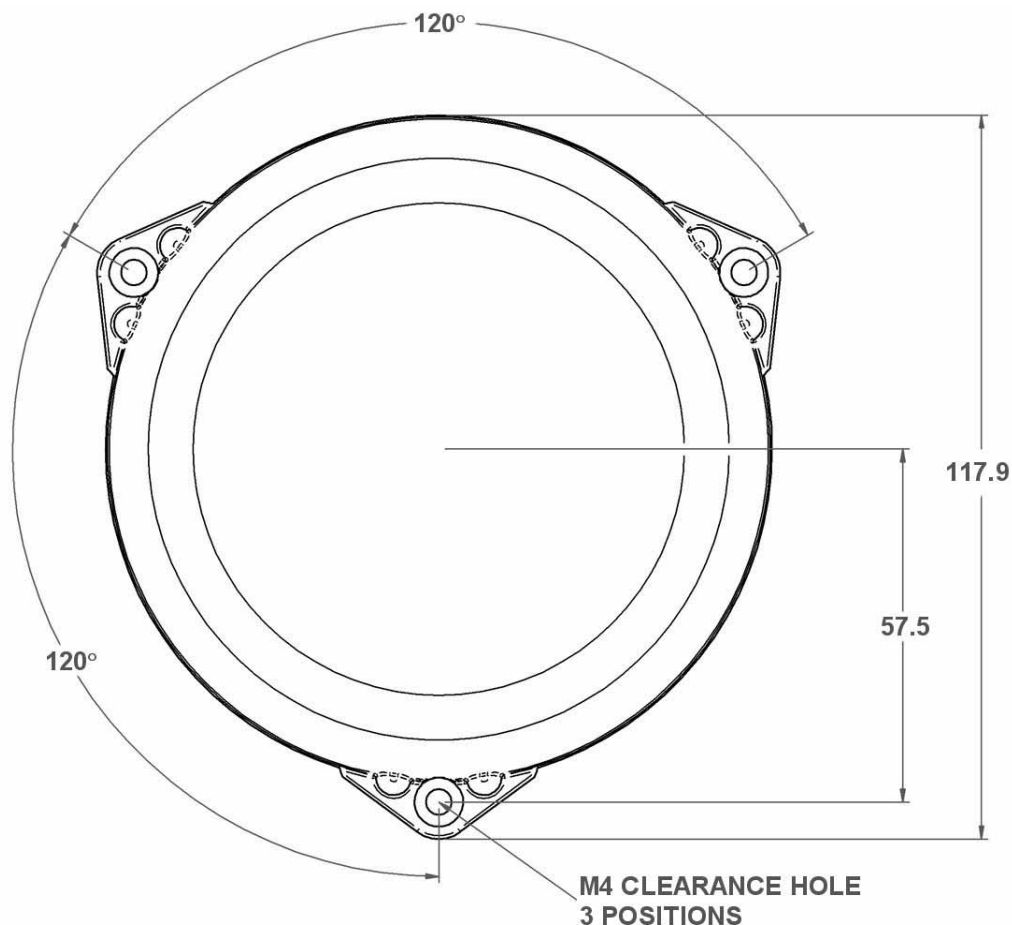
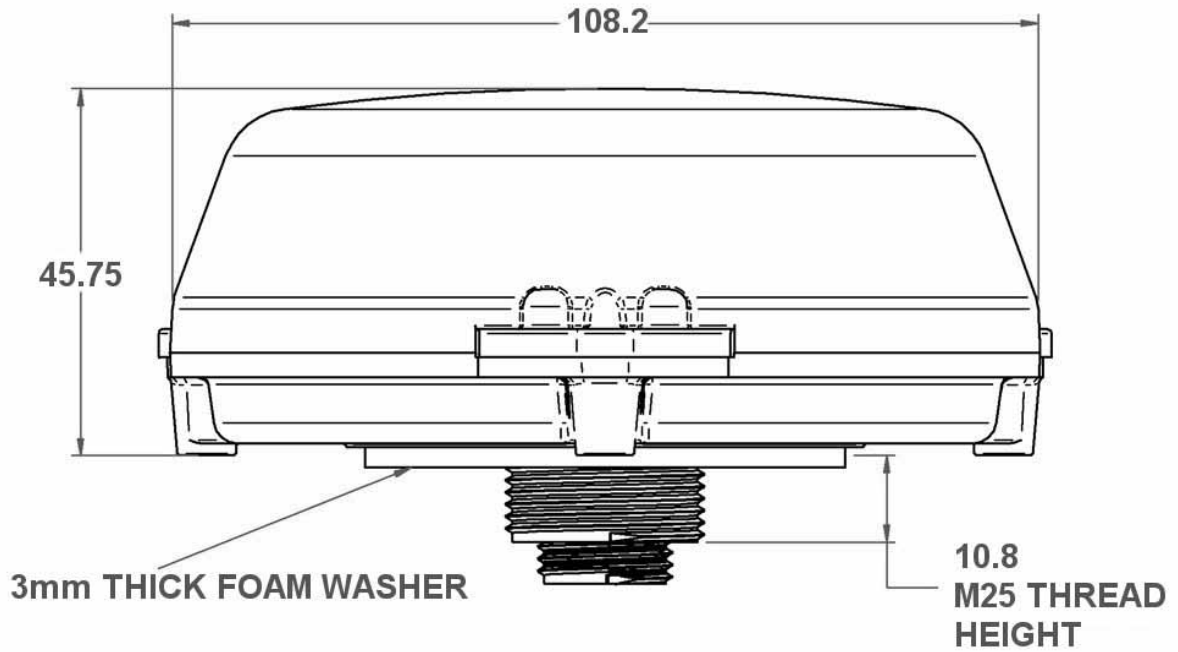

Figure 2 - SAT-201 M4 Drilling Diagram (not to scale)
Figure 3 - SAT-201 M25 Drilling Template (not to scale)
- The SAT-201 may be mounted by utilising either the three outer M4 mounting holes (Figure 2) or the M25 thread on the base (Figure 3).